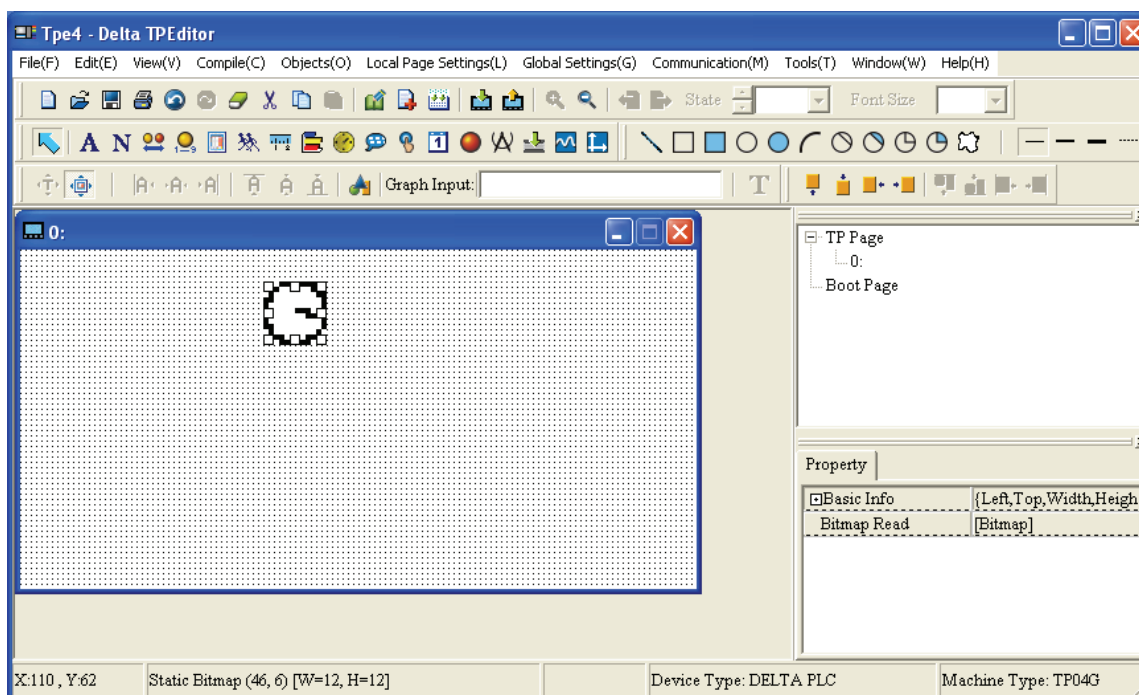

Figure 1-71
Step 2. Double-click the square  by using the mouse, a Open dialog box will appear to let the users select the desired display picture (the picture must be a BMP file). After selecting the desired BMP file and press **Open(O)** button, the screen will look like the following Figure 1-71.